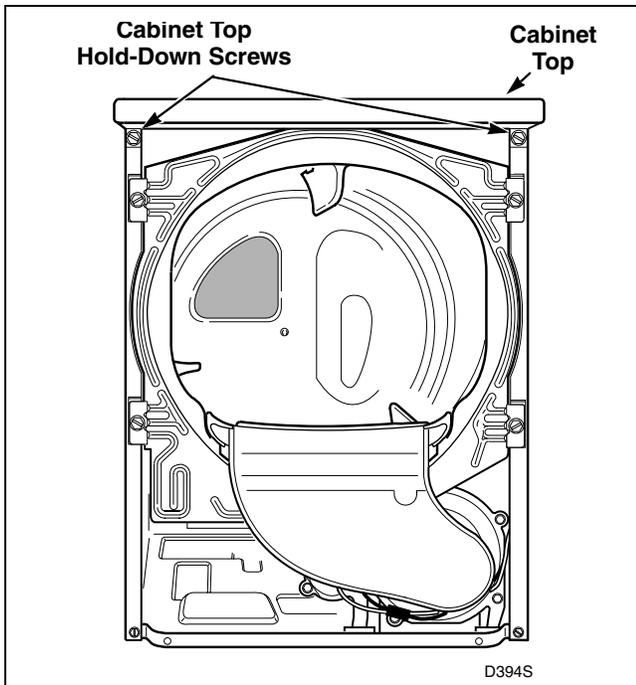

Figure 9
- f. Remove two screws holding cabinet top to front flange of cabinet. Refer to *Figure 9*.